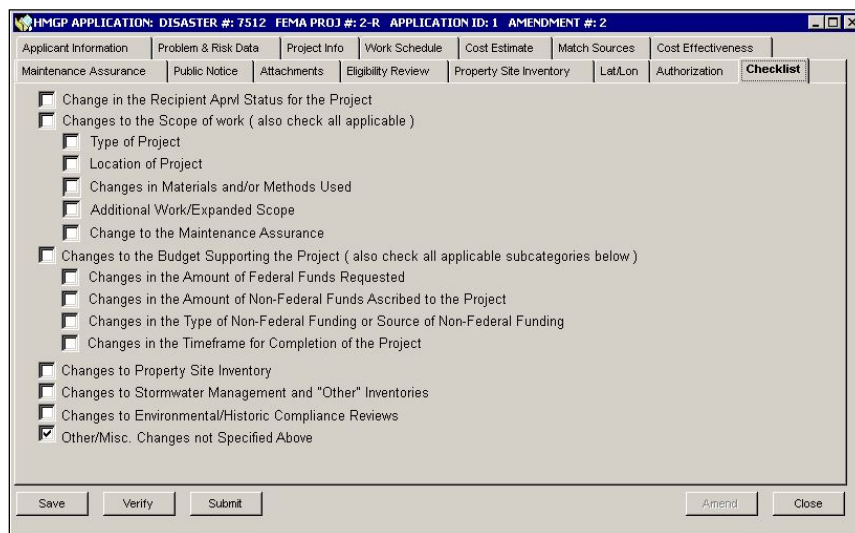

Figure 8-9: Mitigation > Projects > Application Development > Checklist Tab
6. A **Checklist** tab becomes available. Click the tab to view the Amendment items (Figure 8-9).